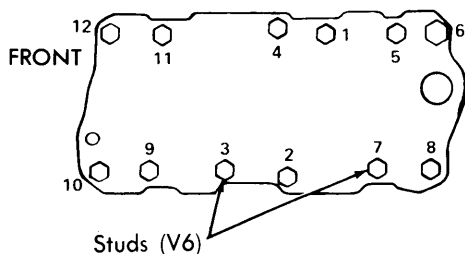

Fig. 1 Intake Manifold Tightening Sequence
2) Some engines do not have front or rear manifold seals. Use suitable sealer to lay a bead along front and rear ridge of block and about 1/2" up each head to hold manifold side gaskets. Tighten in sequence. See Fig. 1. To complete installation, reverse removal procedures.